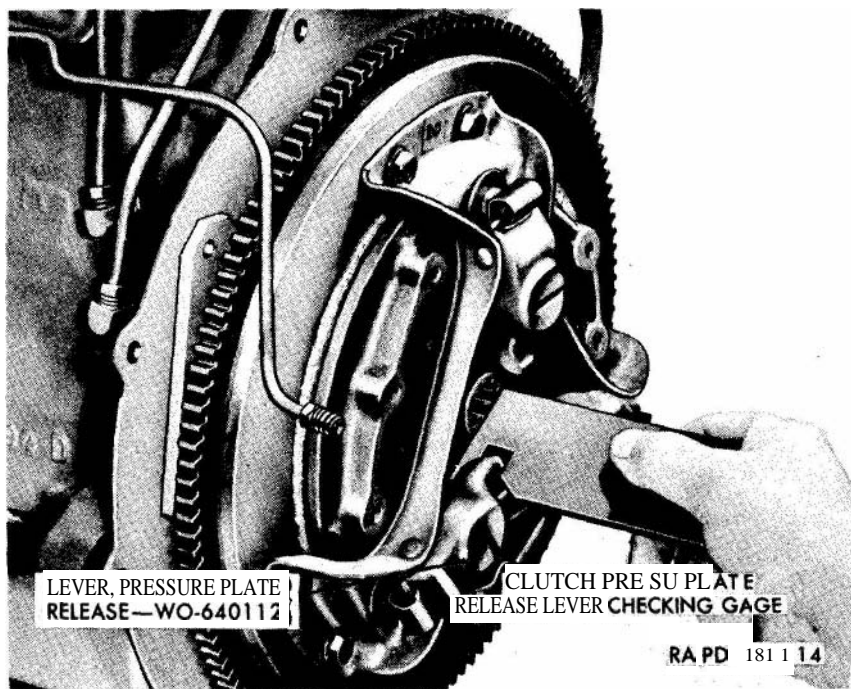

Figure 103. Checking clearance of release lever.
- (1) When the gage is held in the position shown in figure 103, a correct setting is indicated when the end of the gage is against the web of the pressure plate and the outer edge of the release lever is just touching the front edge of the cutout section of the tool.
- (2) Check each of the three levers individually and make sure that all of the levers are within $27/32$ -inch, plus or minus 0.005-inch.